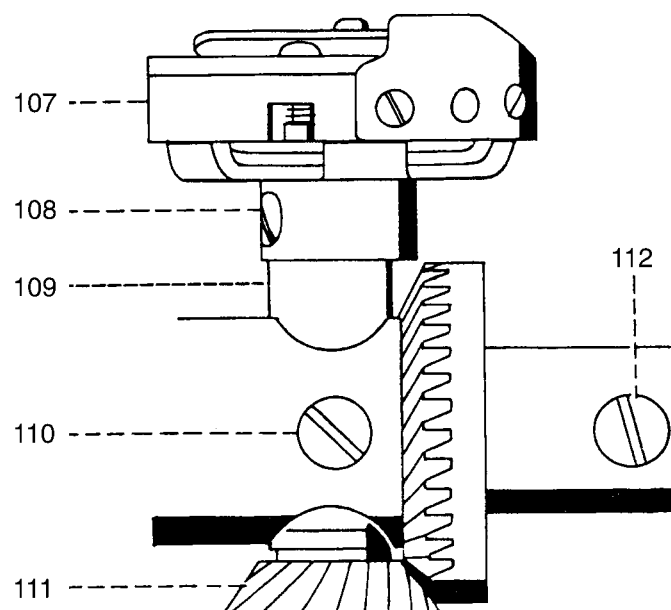

Fig. 61
- If the hook shaft has axial play, loosen the two screws 108 (fig. 61).